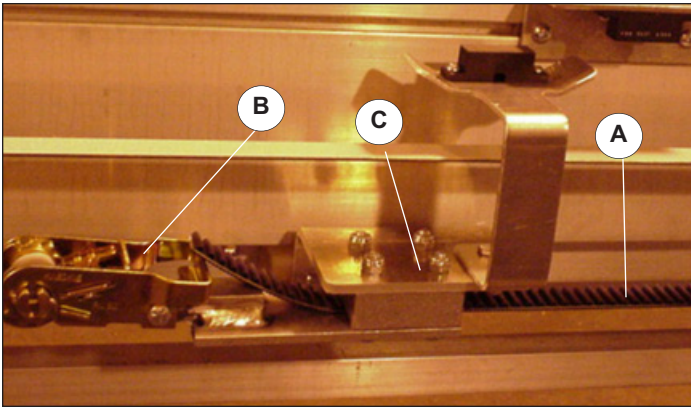

Figure 26.1
1. If slipping is noticed on turnaround, tighten belt (A) with the ratchet (B) and pressure plate (C), approximately 180 ft/lbs [244 nm]. DO NOT overtighten, as premature pulley wear may occur, Figure 26.1.